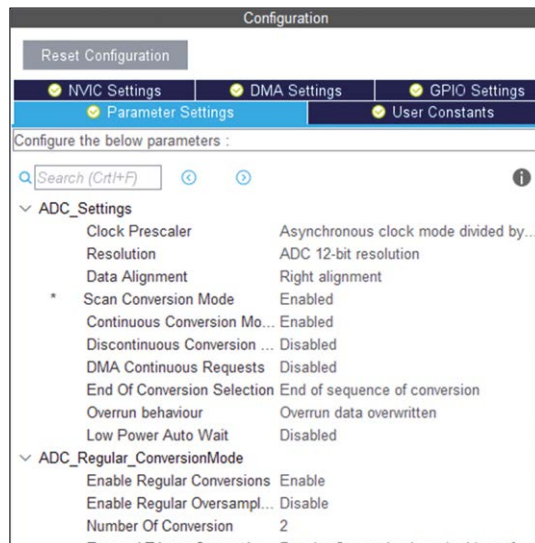

Figure 8.9: Configuration.
- Set **Rank 1 Channel** to **Channel 3**. Also, set **Rank 2 Channel** to **Channel 4** (Figure 8.9).